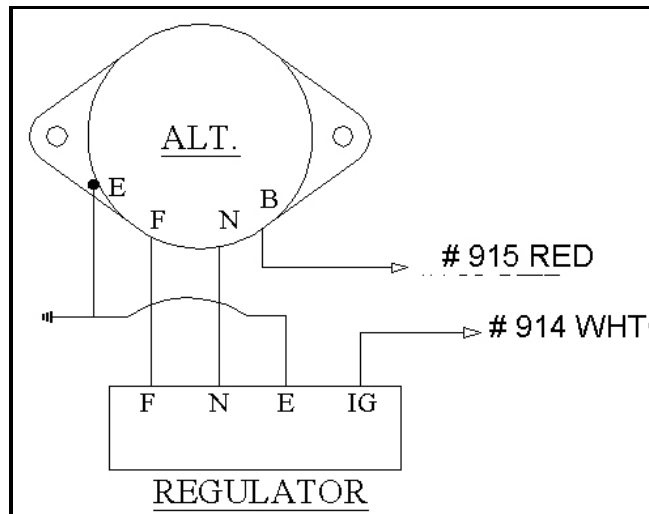

Figure 7-2 Toyota Alt. Diagram (1977-1979)
7.2 Toyota Alternator (1977-1979) See Figure 7-2
*Note: Your Alternator may not appear exactly as represented in **Figure 7-2**. The circuits are wired the same way, though.*